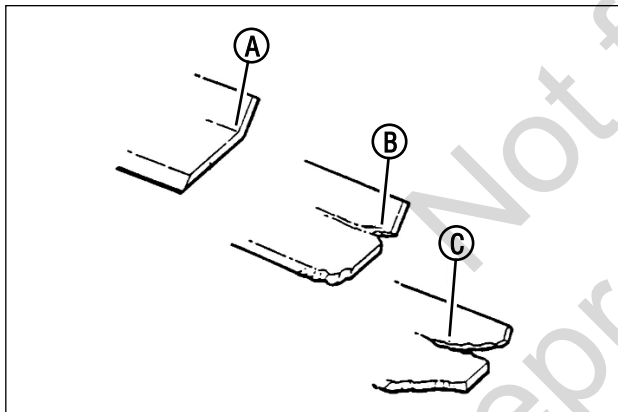

Figure 18: Standard blade wear limits
1. Inspect the blade (**Figure 18**) frequently for signs of excessive wear or damage:
- (A) New blade
- (B) Wear limit (notch starts)
- (C) Dangerous condition! Do not use on the mower! Replace with a new blade.